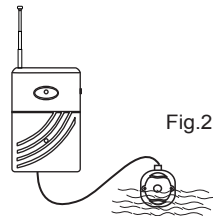

Fig.2
6. Press suctional cap against water detect sensor on the desired location. (Fig.2)